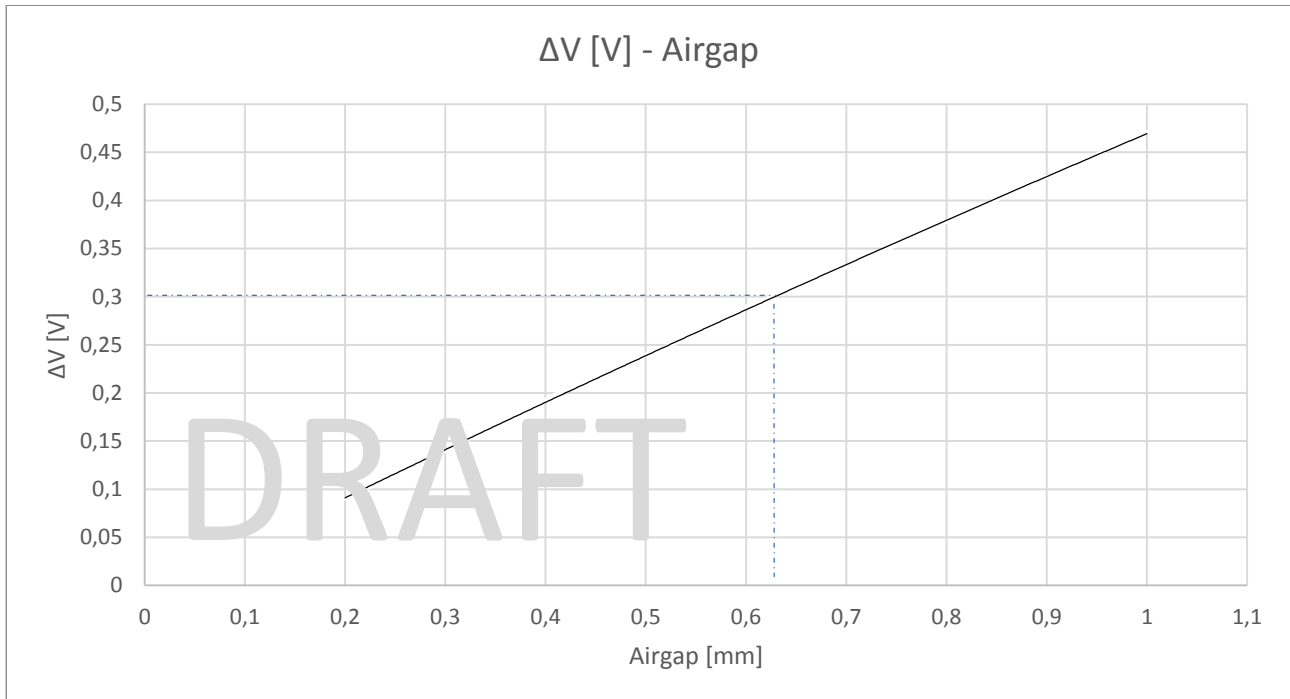

Fig. 3: ΔV – Airgap Curve
- i** If you need to know the airgap value, please refer to Fig. 3
4. Refer to fig.3 in order to understand which is the airgap in this moment